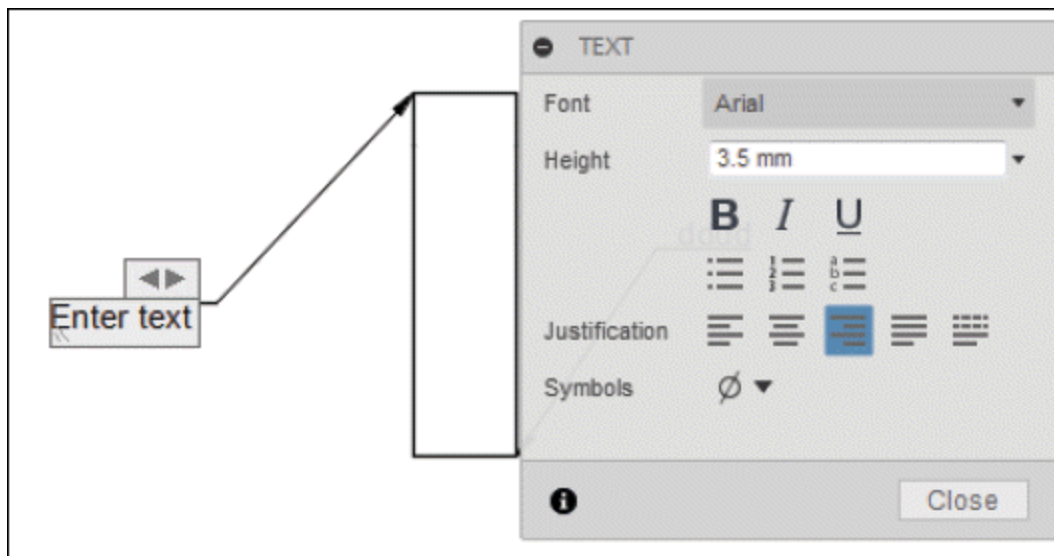

Figure-89. Leader text box
- Click on the screen to place text box. The text box will be displayed along with **TEXT** dialog box; refer to Figure-89.